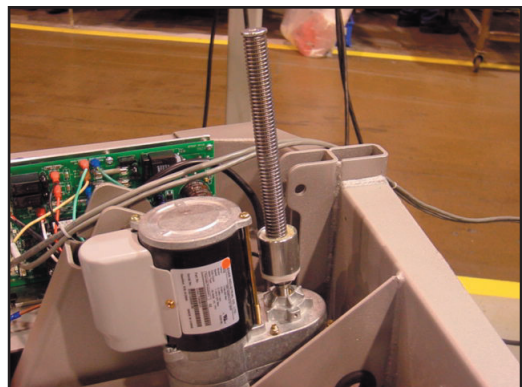

Figure 6
- 3.2 Position the Actuator with the shaft pointing upward (see Figure 6).